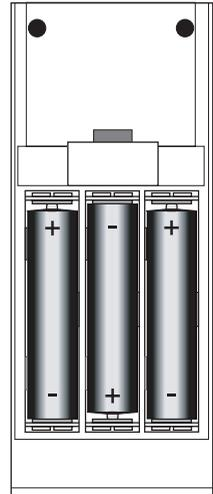

Figure 34
- Insert 3 AA batteries with the correct polarity into the three battery compartments. See figure 34.